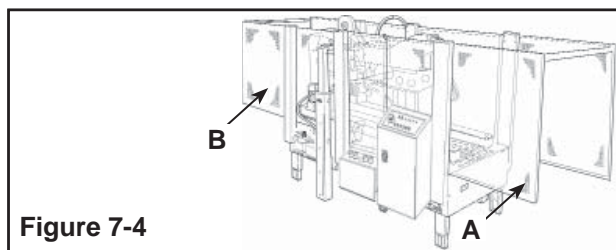

Figure 7-4
Position and assemble the inside (A) and outside (B) guard panels with the upper and bottom brackets and stiffening profile plates as shown in the pictures (Figure 7-4).